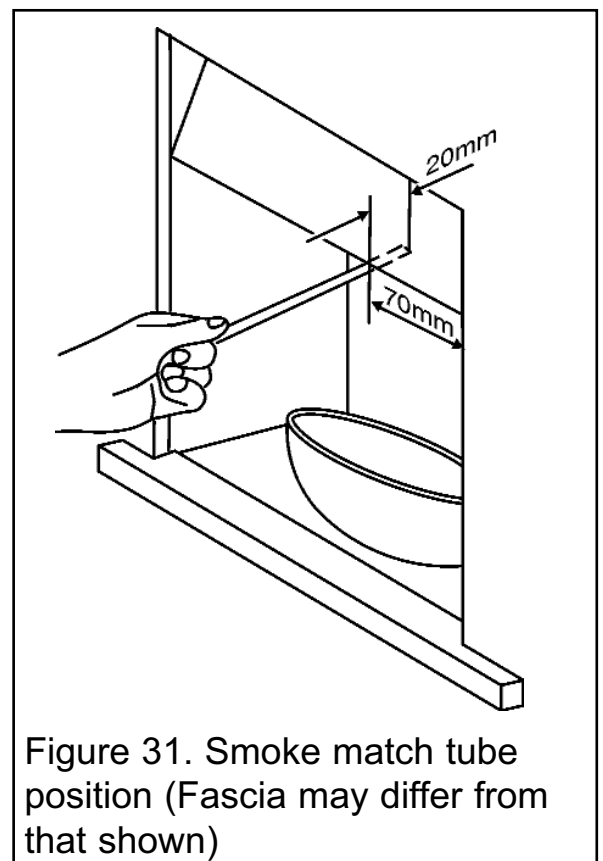

Figure 31. Smoke match tube position (Fascia may differ from that shown)
4. The smoke match should be placed horizontally into the hotbox at the right hand side (See figure 31).